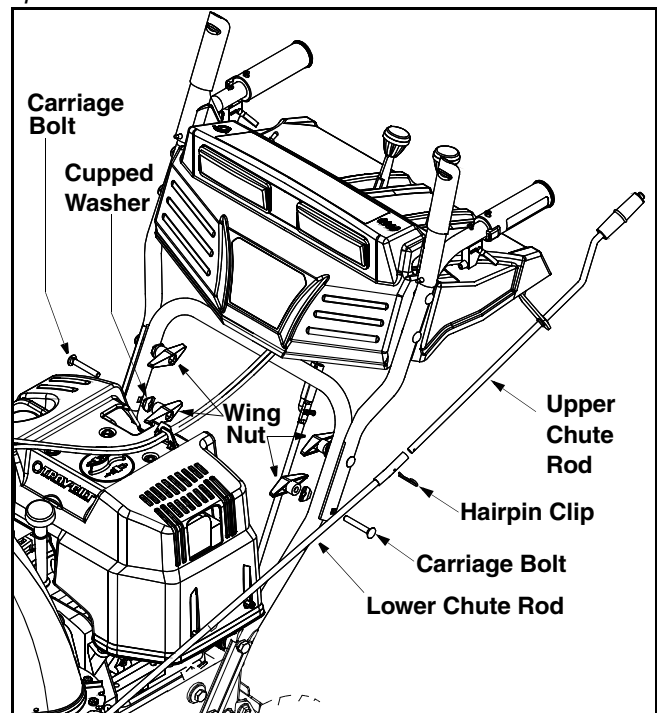

Figure 2
- Remove the **lower** plastic wing nut, cupped washer and carriage bolt from each side of the lower handle. See Figure 2.
- Secure the upper handle and lower handle with the two plastic wing nuts, cupped washers and carriage bolts previously removed. Attach these hardware on the lower hole in the handles. See Figure 2.
- Tighten the two wing nuts already in place on the upper holes and secure the handles firmly. Slide the shift rod connector down over the end of the lower shift rod. Tap the connector until it **locks** over the lower shift rod. See Figure 2.
- Align the two holes on both chute rods and insert the hairpin clip removed earlier, through these holes. See Figure 2.